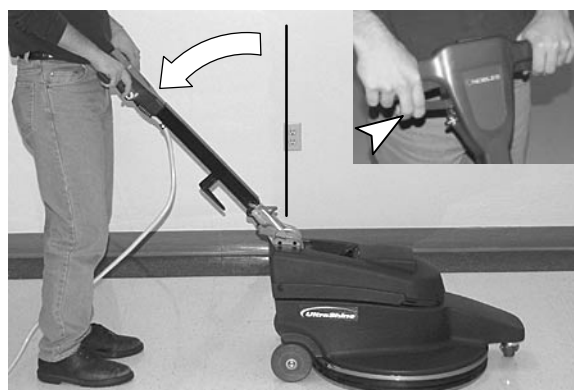

FIG. 6
3. Lower the handle to a desired operating height by pulling the handle height adjustment lever. Release lever to engage handle (Figure 6).